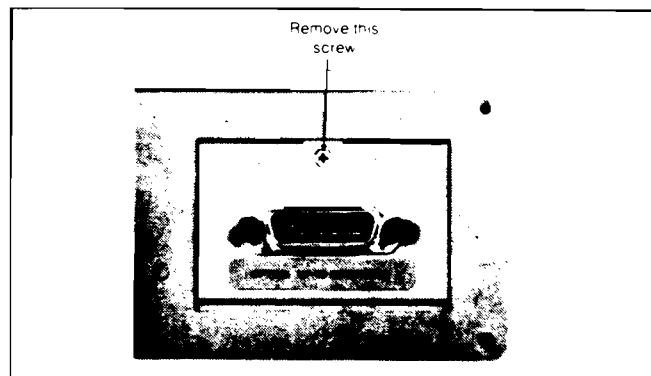

Figure 20-1. Access Door Removal
1. Remove the screw that holds the switch access door closed (see figure 20-1).